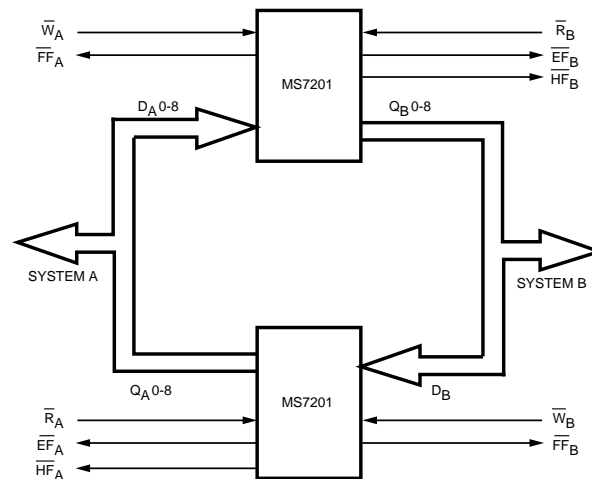

Figure 6. BiDirectional FIFO Mode
Data buffering between two systems can be achieved by pairing two FIFO arrays as shown in Figure 6. This allows each system to READ and WRITE shared data. The FULL FLAG (FF) must be monitored on the FIFO where WRITE ENABLE (\bar{W}) is used and the EMPTY FLAG (\bar{E}) must be monitored on the FIFO where READ ENABLE (\bar{R}) is used. Both Width Expansion and Depth Expansion